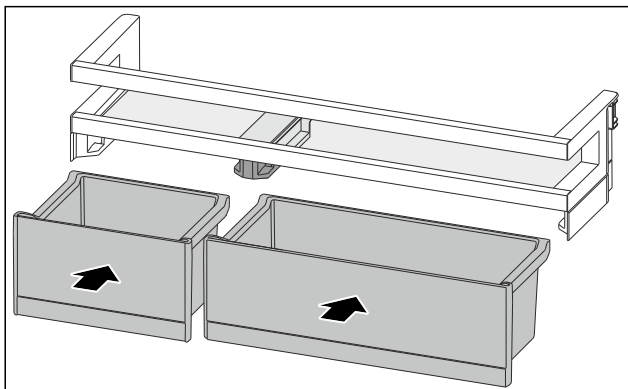

Fig. 188
- ▶ Insert the VarioBoxes in reverse order. (see Fig. 188)